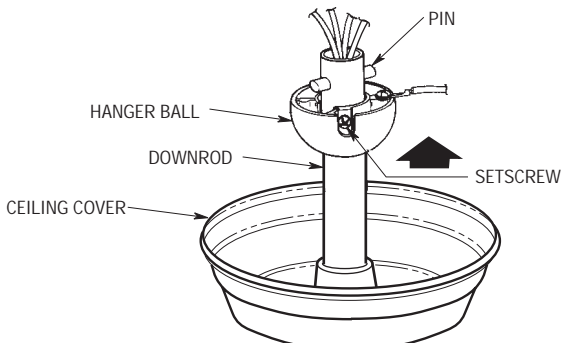

Figure 7
- 11. Reinstall the hanger ball on the downrod as follows. Route the motor leads through the hanger ball and slide the hanger ball over the downrod (Figure 7). Install the pin through the holes at the top of the downrod and slide the hanger ball up the downrod, aligning the ball so the pin is captured in the groove in the top of the hanger ball. Pull the hanger ball up tight against the pin and securely tighten the setscrew in the hanger ball. A loose setscrew could create fan wobble.